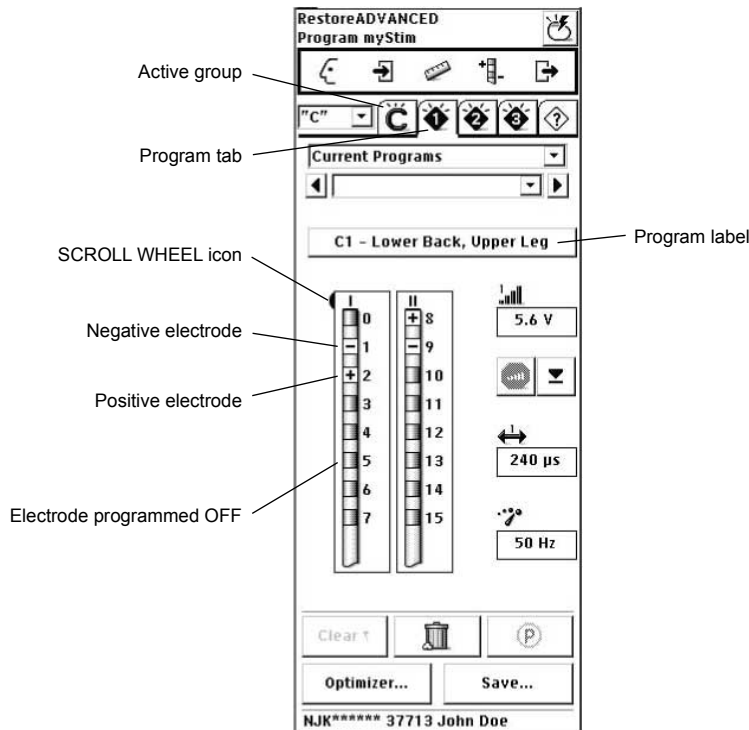

Figure 28. Programming electrode polarities on a program tab.
4. Select the electrode -, +, or blank (OFF) options on the lead to be programmed. The SCROLL WHEEL icon appears next to the selected lead input box (Figure 28).